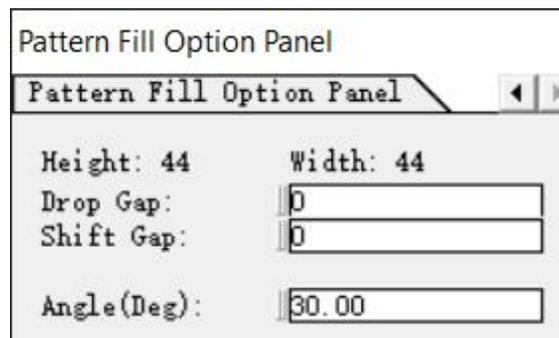

Figure 4-118
3. Select Pattern Rotating Fill, the Pattern Fill Option Panel displays the height and width of the filling pattern, and you can achieve the desired rotating fill effect by setting "Drop Gap", "Shift Gap" and "Angle(Deg)". (Figure 4-118)